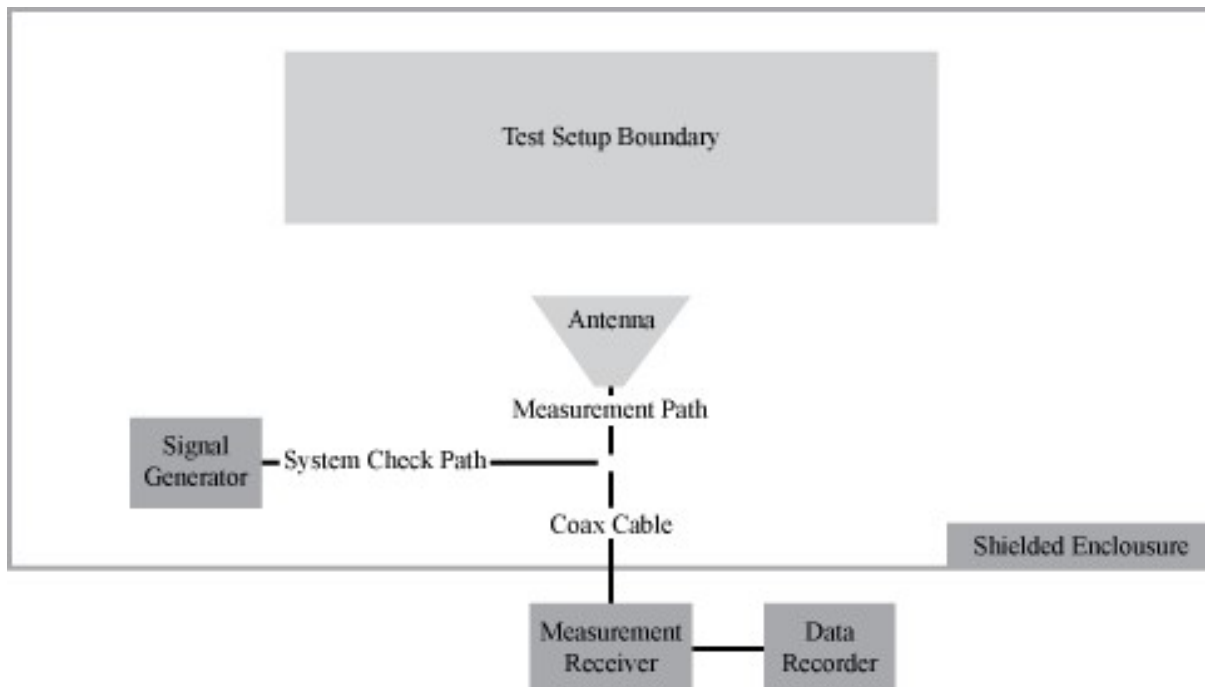

Figure 5.7-2: RE102 Measurement System Check Setup
2. The measurement system was set up per Figure 5.7-2.
9. Using the measurement path of Figure 5.7-2, the following evaluation for each antenna was performed to demonstrate that there is electrical continuity through the antenna: